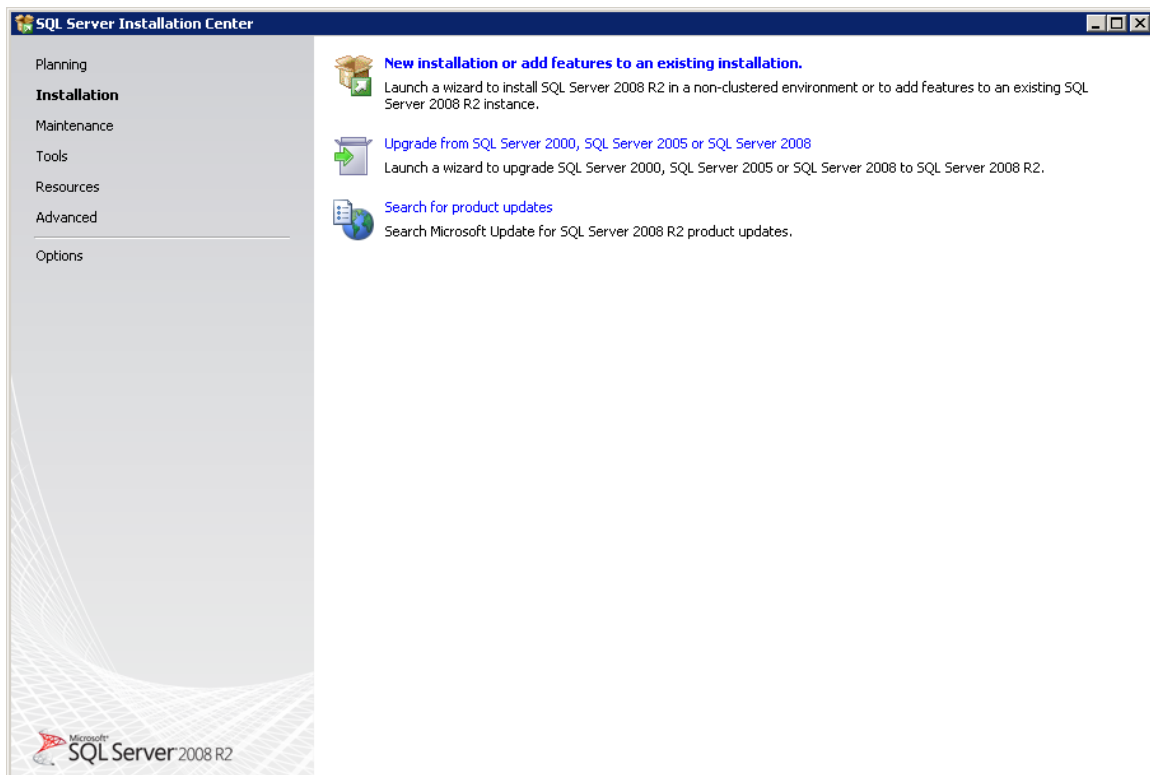

Figure 2-3 SQL Server 2008 R2 Express Installation – Installation Menu
6. Click the appropriate installation option. Click the *New installation or add features to an existing installation* option unless upgrading from an older version. See Figure 2-3 below.